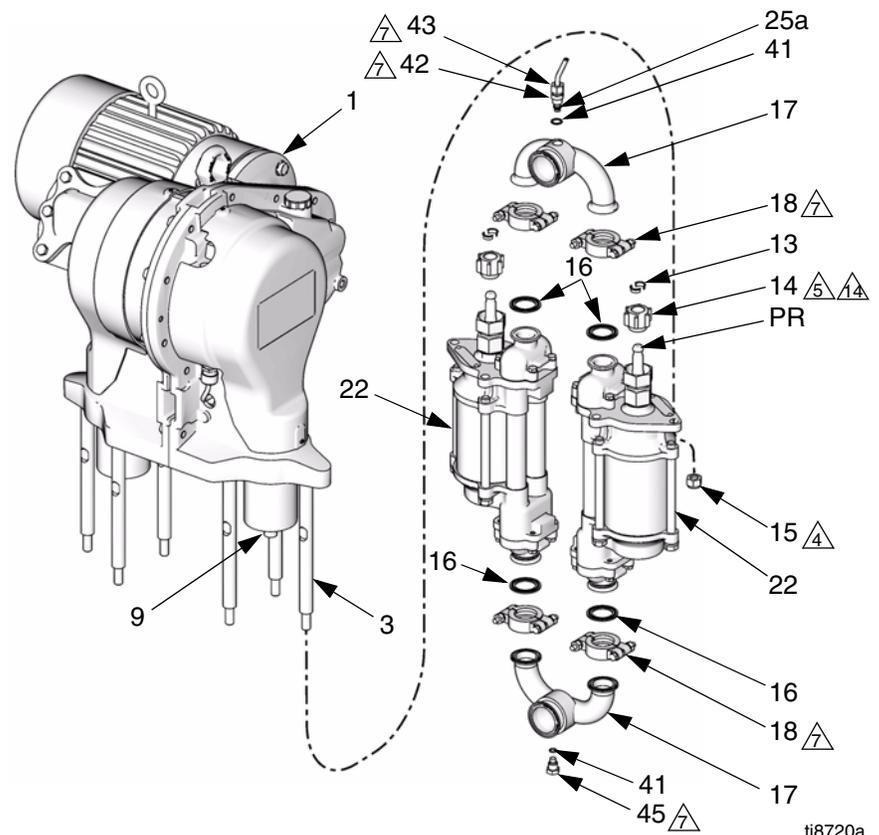

FIG. 4: Fluid Section
- See FIG. 4. At the pump outlet manifold (17), loosen the transducer nut (43) and unscrew the adapter (42) from the manifold. Remove the transducer (25a) from the manifold port. Remove the existing o-ring (41) and discard.
- Loosen the clamps (18) at the inlet and outlet manifolds (17). Remove the manifolds and gaskets (16).
- Remove the coupling nut (14) and collars (13) from the piston rods (PR).
- Unscrew the locknuts (15). Remove the lower (22). To repair the lower, see manual 311690.
1. See FIG. 4. Install the coupling nut (14) on the lower's piston rod (PR).
2. Orient the lower (22) to the gear reducer (GR) as shown. Position the lower on the tie rods (3). Screw the tie rod locknuts (15) onto the tie rods handtight.
3. Assemble the inlet and outlet manifolds (17) to the lower, using new gaskets (16). Torque the clamps (18) to 15-20 ft-lb (21-27 N•m).
4. Torque the locknuts (15) to 50-60 ft-lb (68-80 N•m).
5. Install a new black o-ring (41) on the transducer (25a).
6. Insert the transducer into the outlet manifold (17). Torque the adapter (42) first, then the nut (43) to 15-20 ft-lb (21-27 N•m).
7. Install a black o-ring (41) on the plug (45). Screw the plug into the inlet manifold (17) and torque to 15-20 ft-lb (21-27 N•m).
8. Ensure that the collars (13) are in place in the coupling nut (14).
9. Place a 3/4 in. wrench on the flats of the slider piston (9), to keep it from turning when you are tightening the coupling nut (14). Orient the wrench so it is braced against one of the tie rods (3) or the pump stand. Tighten the coupling nut (14) onto the slider piston (9) and torque to 75-80 ft-lb (102-108 N•m).